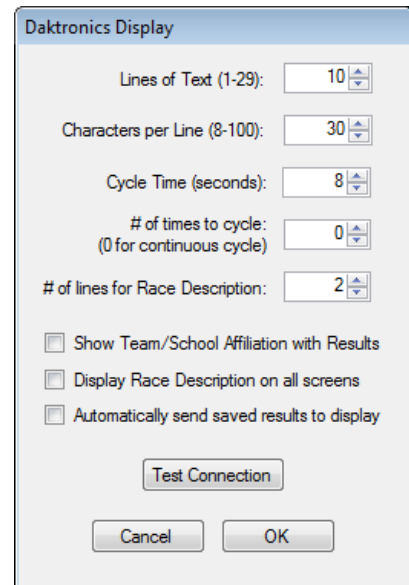

Figure 42: Display Settings
5. Go to **Display > Display Settings (Figure 42)**.